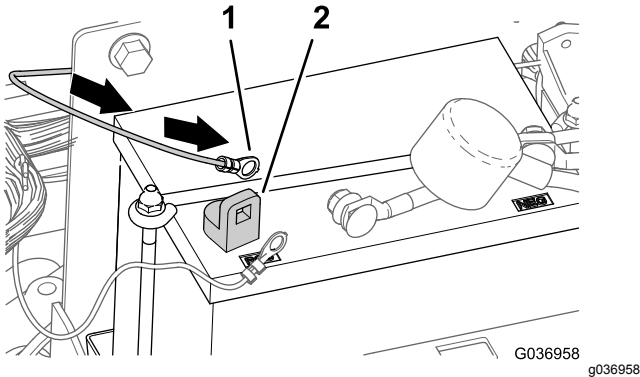

Figure 10
2. Route the harness leg with the ring terminal to the positive post of the battery (Figure 10).